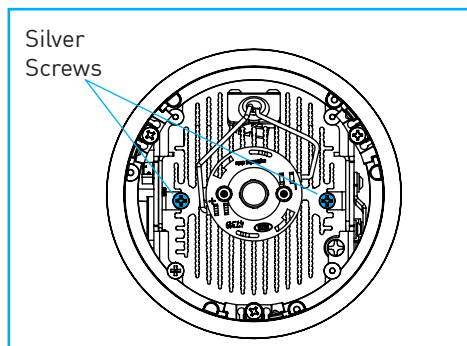

Fig.49
- Using standard Phillips-head screwdriver, remove 2 silver screws from black heat sink to detach LED engine from trim *"Fig.49"*.
- Applying upward pressure to support weight of LED engine, use standard Phillips-head screwdriver, remove 2 silver screws from black heat sink to detach LED engine from trim *"Fig.49"*.